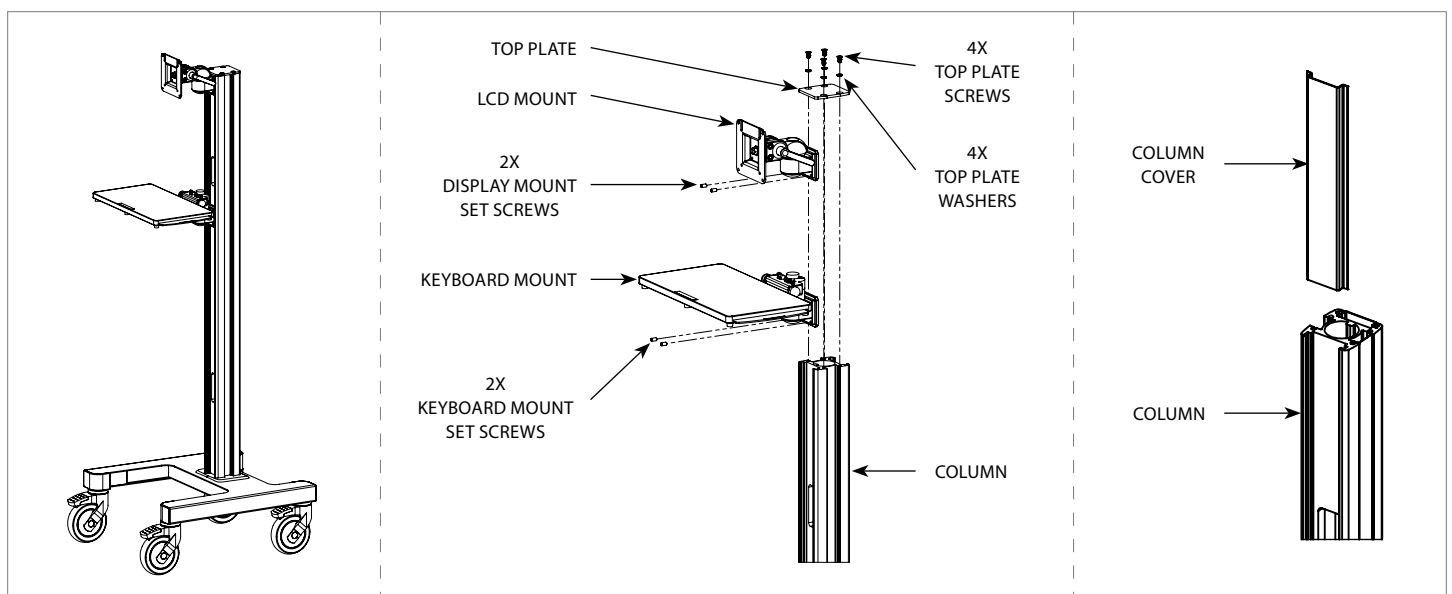

Figure 2
2. Uninstall *DISPLAY MOUNT* or *KEYBOARD MOUNT* or *LAPTOP MOUNT* from the *COLUMN* by unscrew the 4x *TOP PLATE SCREWS* and 4x *TOP PLATE WASHERS*, place the *TOP PLATE* aside using 5/32" Allen key. Remove the *MOUNTS* by unscrewing the 2x *SET SCREWS* on each *MOUNT* bottom using 1/8" Allen key and slide it out. Remove the *COLUMN COVER* as needed (**Figure 2**).